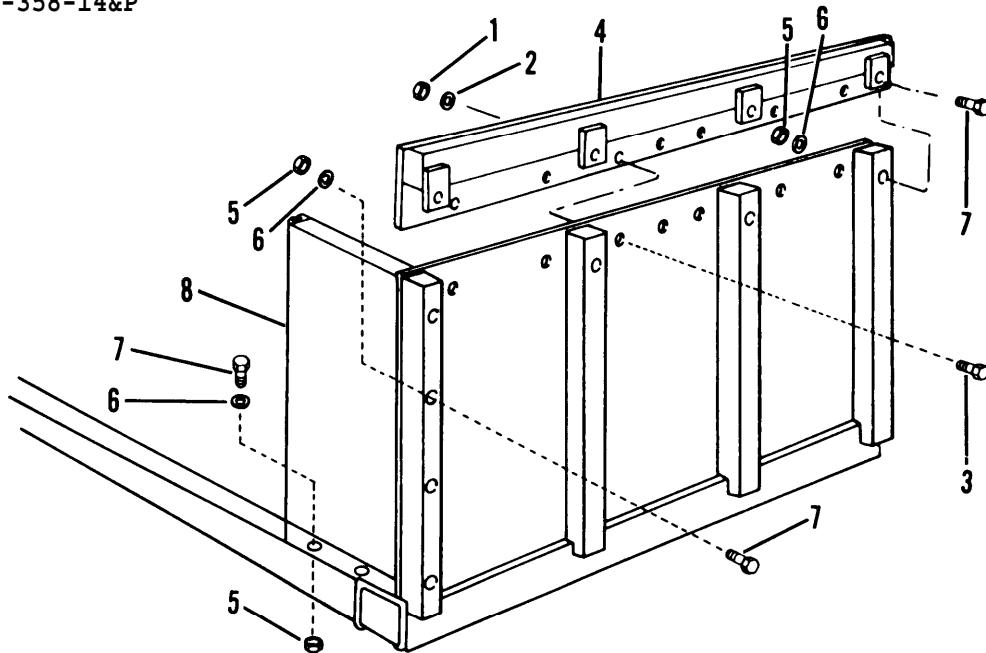

Figure 4-59. Chassis Bulkhead Assembly
- (1) Remove nine nuts (1, fig. 4-59), washers (2) and bolts (3) from bulkhead (4) .
- (1) Remove seven nuts (5, fig. 4-59), washers (6) and bolts (7) from wing panel (8)0
- (2) Remove wing panel (8).
- (3) Repeat steps 1 and 2 for other wing panel as needed.
- (1) Install wing panel (8, fig. 4-59).
- (2) Secure wing panel (8) with seven bolts (7), washers (6) and nuts (5).
- (1) Install bulkhead (4, fig. 4-59).